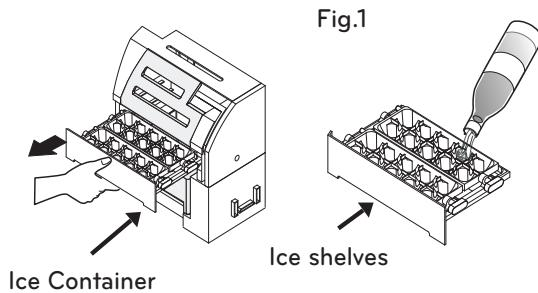

Fig.1
- To make ice cubes, pull out the ice drawer and pour water on the shelves (Fig. 1.) Then place in their original position until you hear a "click" sound.